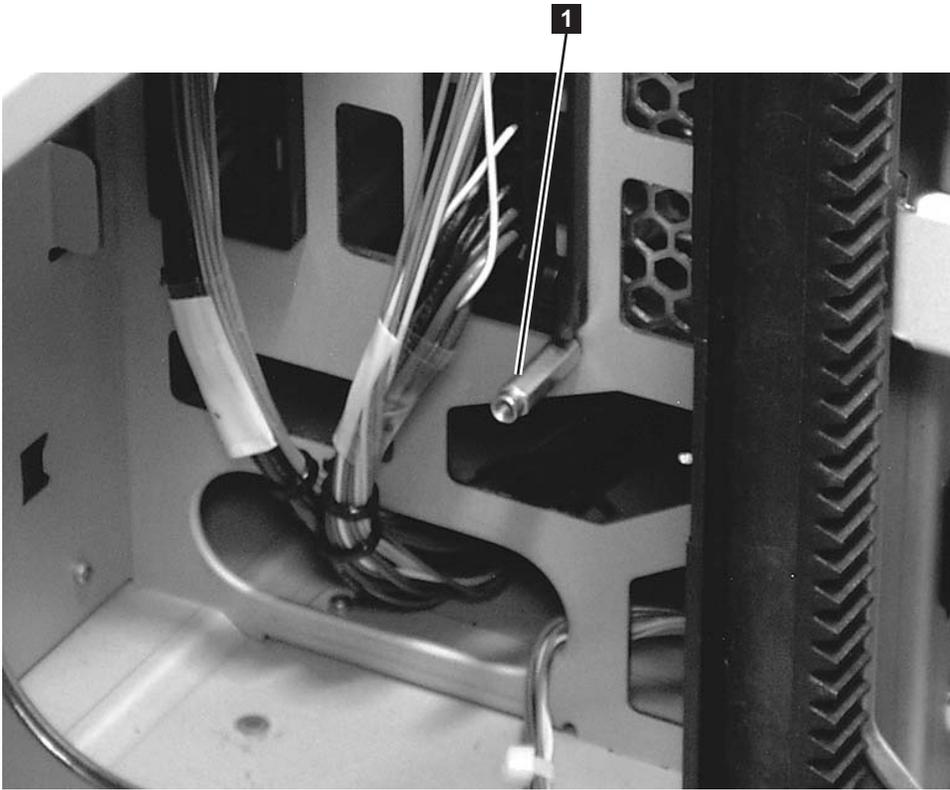

Figure 8-65. Hex stand-off behind the Cable Spool Assembly
- b. Remove the hex stand-off (see **1** in Figure 8-65 on page 8-68) from behind the Cable Spool Assembly. This requires a 5 mm (3/16-inch) wrench.